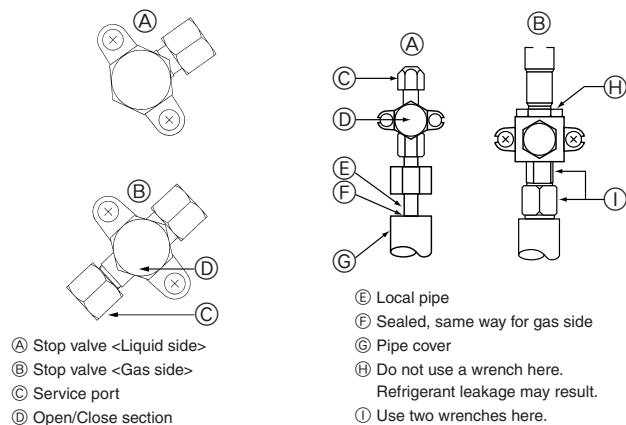

Fig. 4-4
4.4. Refrigerant pipe airtight testing method (Fig. 4-4)
- Make sure the stop valves (A) (B) are closed and do not open them.
- Add pressure to the refrigerant lines through the service port (C) of the liquid stop valve (D).
- If the pressure decreases in steps (2) or (3), there is a gas leak. Look for the source of the gas leak.